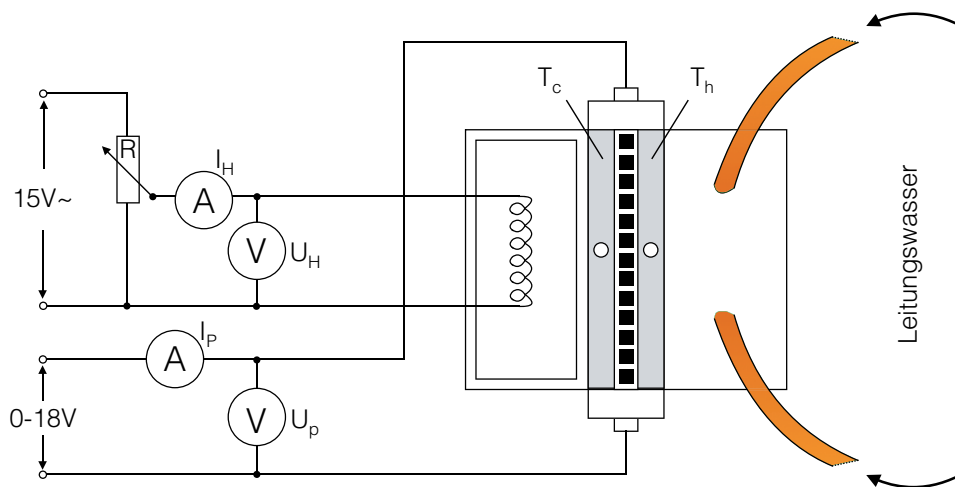

Figure 1.3: Setup for determining the cooling capacity.
- Buckle the heating coil, the thermal generator, and multimeter to the power unit according to Figure 1.3.